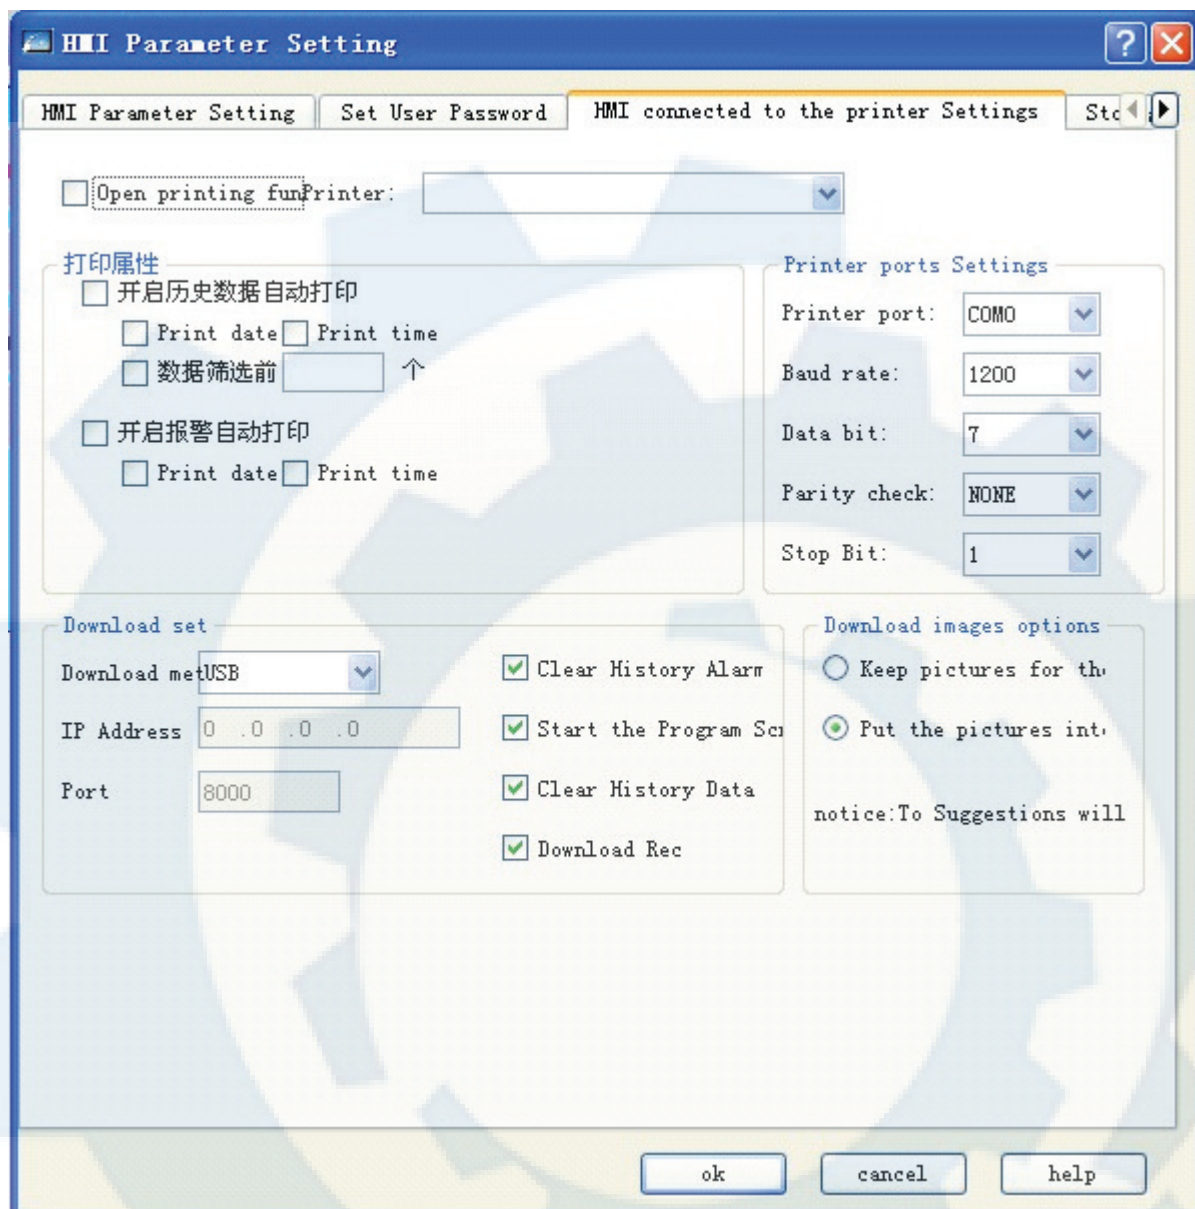

Figure 7-3 Connection setting between touch screen and printer
3. The connection setting between touch screen and printer is shown as Figure 7-3: